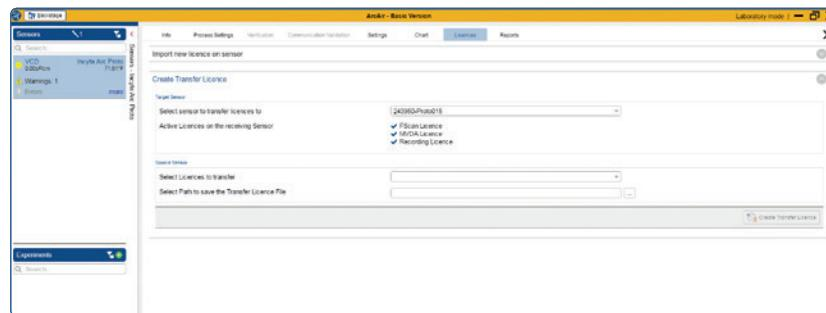

Figure 32: Transfer License creation
- 2) Go to the «Licenses Menu» (figure 32).